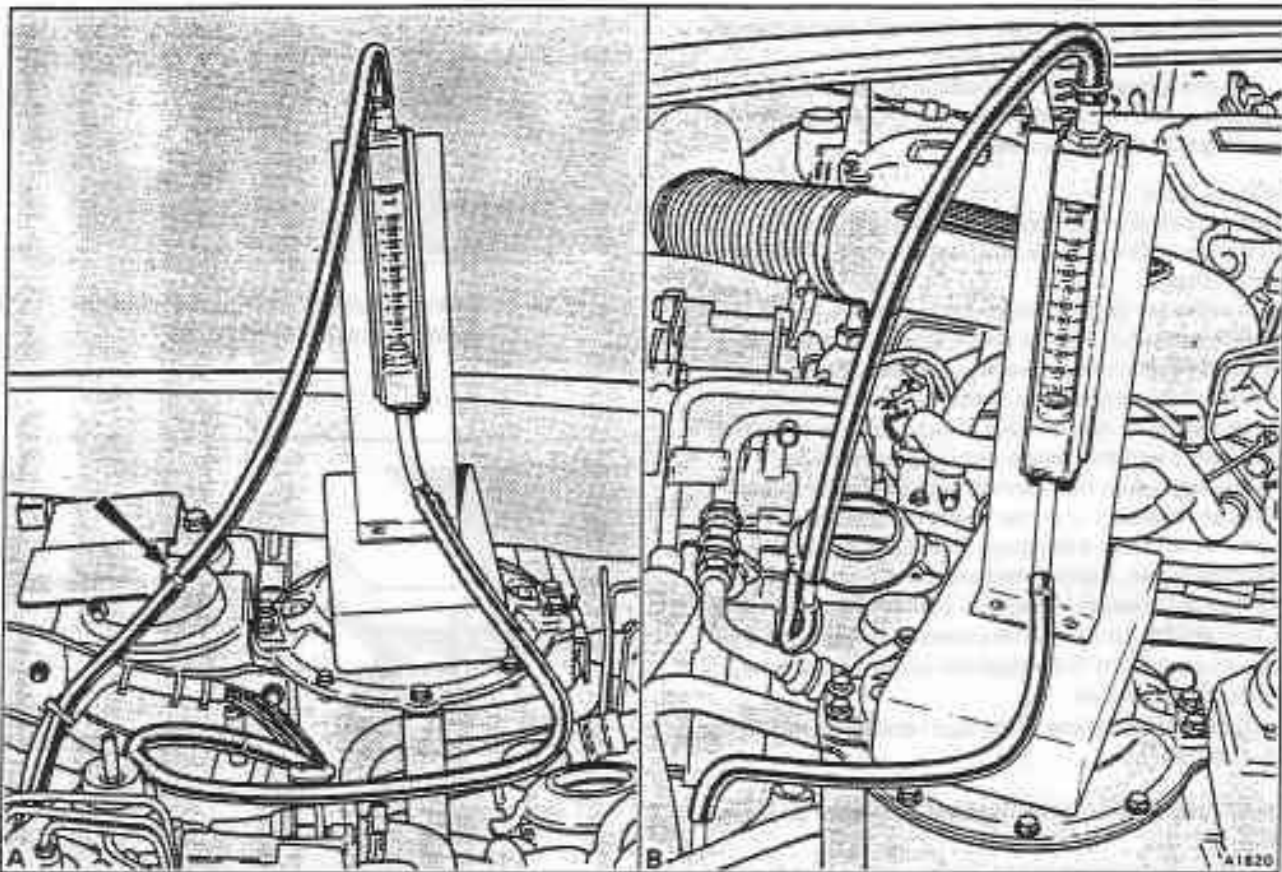

Fig. G2-6 Connecting the flowmeter
1. Fit a flowmeter RH 8725 between the pipe from the canister and the hose to the control solenoid (see fig. G2-6).
1. Fit a flowmeter RH 8725 between the hose from the canister and the adapter (see fig. G2-6).